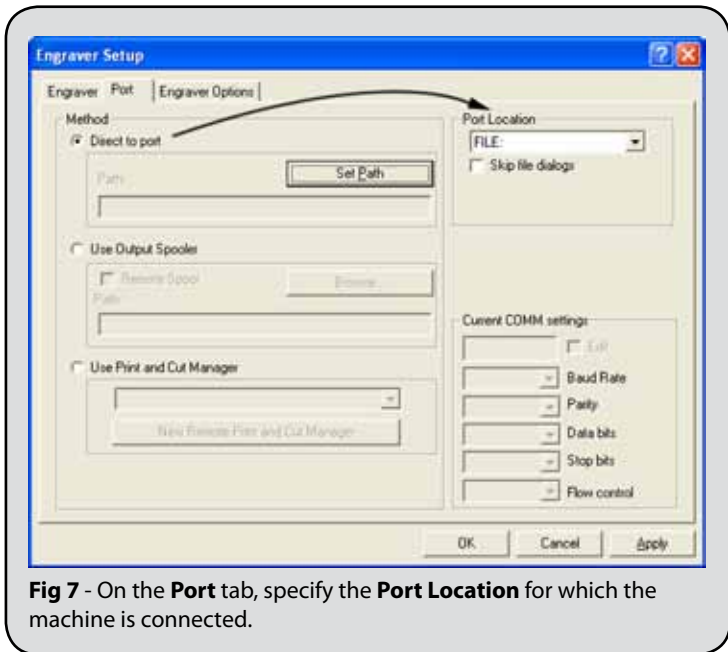

Fig 7 - On the **Port** tab, specify the **Port Location** for which the machine is connected.
14. Click the **Port** tab. (Fig. 7)